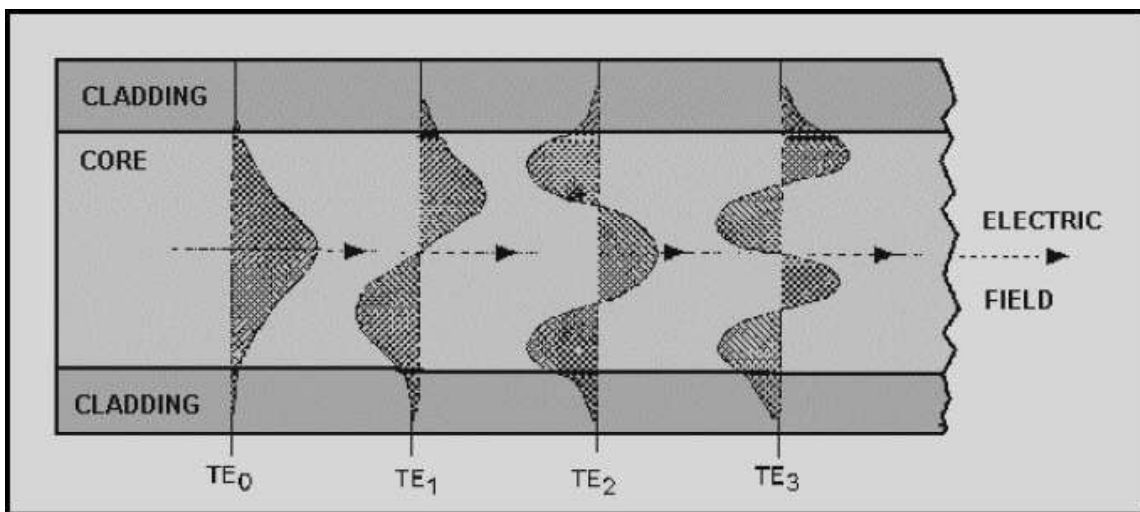

Figure 2-18. - Transverse electric (TE) mode field patterns
MODES.—A set of guided electromagnetic waves is called the modes of an optical fiber. Maxwell's equations describe electromagnetic waves or modes as having two components. The two components are the electric field, $E(x, y, z)$, and the magnetic field, $H(x, y, z)$. The electric field, E , and the magnetic field, H , are at right angles to each other. Modes traveling in an optical fiber are said to be transverse. The transverse modes, shown in figure 2-18, propagate along the axis of the fiber. The mode field patterns shown in figure 2-18 are said to be transverse electric (TE). In TE modes, the electric field is perpendicular to the direction of propagation. The magnetic field is in the direction of propagation. Another type of transverse mode is the transverse magnetic (TM) mode. TM modes are opposite to TE modes. In TM modes, the magnetic field is perpendicular to the direction of propagation. The electric field is in the direction of propagation. Figure 2-18 shows only TE modes.
The TE mode field patterns shown in figure 2-18 indicate the order of each mode. The order of each mode is indicated by the number of field maxima within the core of the fiber. For example, TE_0 has one field maxima. The electric field is a maximum at the center of the waveguide and decays toward the core cladding boundary. TE_0 is considered the fundamental mode or the lowest order standing wave. As the number of field maxima
Before we progress, let us refer back to figure 2-18. Notice that the modes are not confined to the core of the fiber. The modes extend partially into the cladding material. Low-order modes penetrate the cladding only slightly. In low-order modes, the electric and magnetic fields are concentrated near the center of the fiber. Low-order modes take parallel or modestly transverse paths. However, high-order modes penetrate further into the cladding material and take considerably more transverse paths. In high-order modes, the electrical and magnetic fields are distributed more toward the outer edges of the fiber.